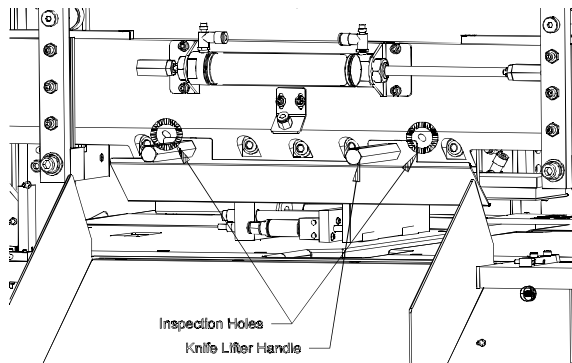

Figure 4-8. Knife Installation
28. Place the knife behind the knife bar while aligning the lifter handles to the open bolt slots in the knife bar as shown in Figure 4-8.
31. Place 4 knife bolts into the 4 available holes in the knife and use the T-handle wrench to secure them as shown in Figure 4-8.